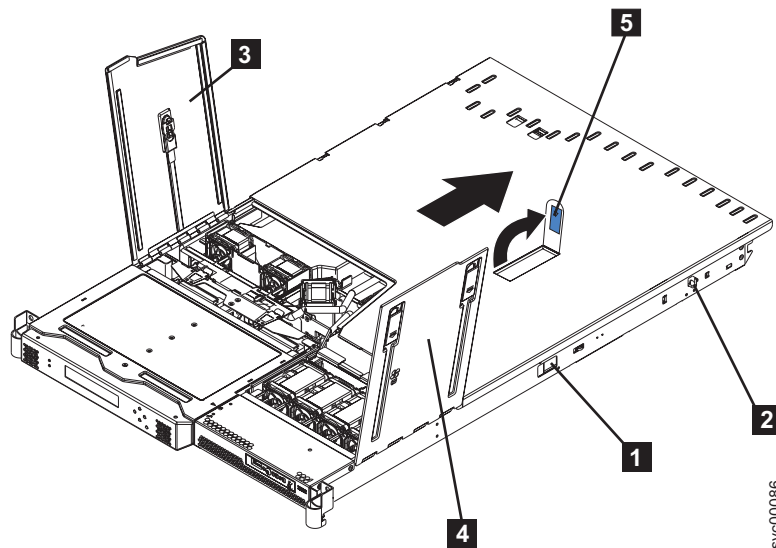

Figure 131. SAN Volume Controller 2145-8F2 or SAN Volume Controller 2145-8F4 with fan doors open
- b. Slide both side release latches (left and right) toward the front of the node. Make sure that both rail-lock pins (**2** in Figure 131) are in a vertical position, pull the node out, and remove it from the rack.